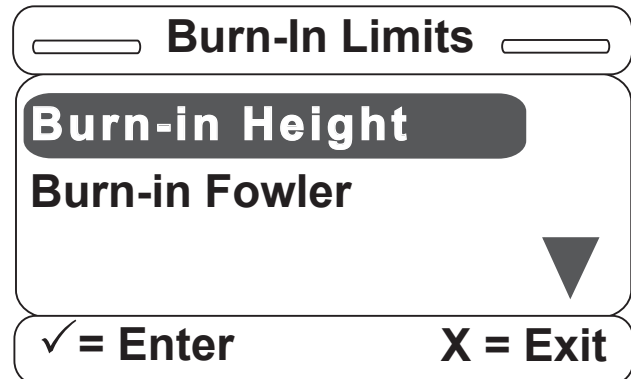

Figure S-32
30. Once the Burn-in item is selected, the screen in Figure S-32 will be displayed. The Burn-in Height item will walk the user through the burn-in height routine; and, similarly, the Burn-in Fowler item will walk the user through the burn-in fowler routine. Select the Burn-in Height option and press “Enter” on the footboard panel. If needed, press “Exit” to cancel the operation.